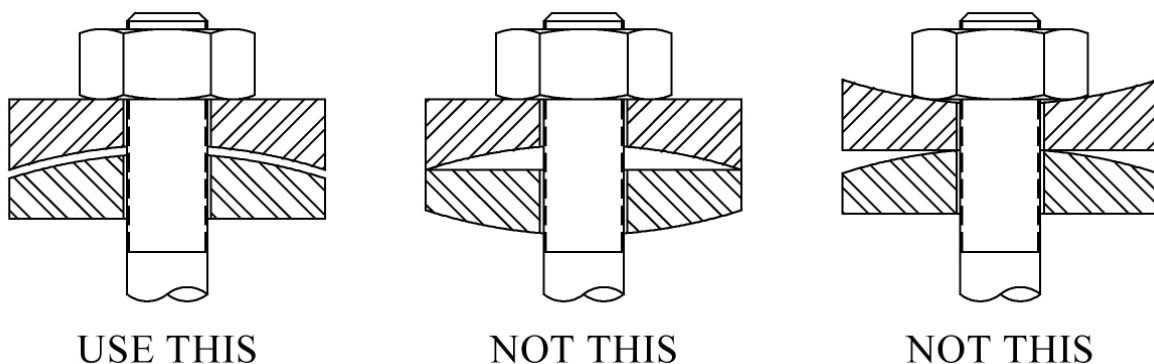

Figure 5
5. When using tension member assemblies having mating spherical surfaces, be certain that they are properly installed. See figure 5. Morehouse Quick-Change Tension members (pictured below) are designed to help eliminate eccentric loads, resulting in a more accurate and safer force application.